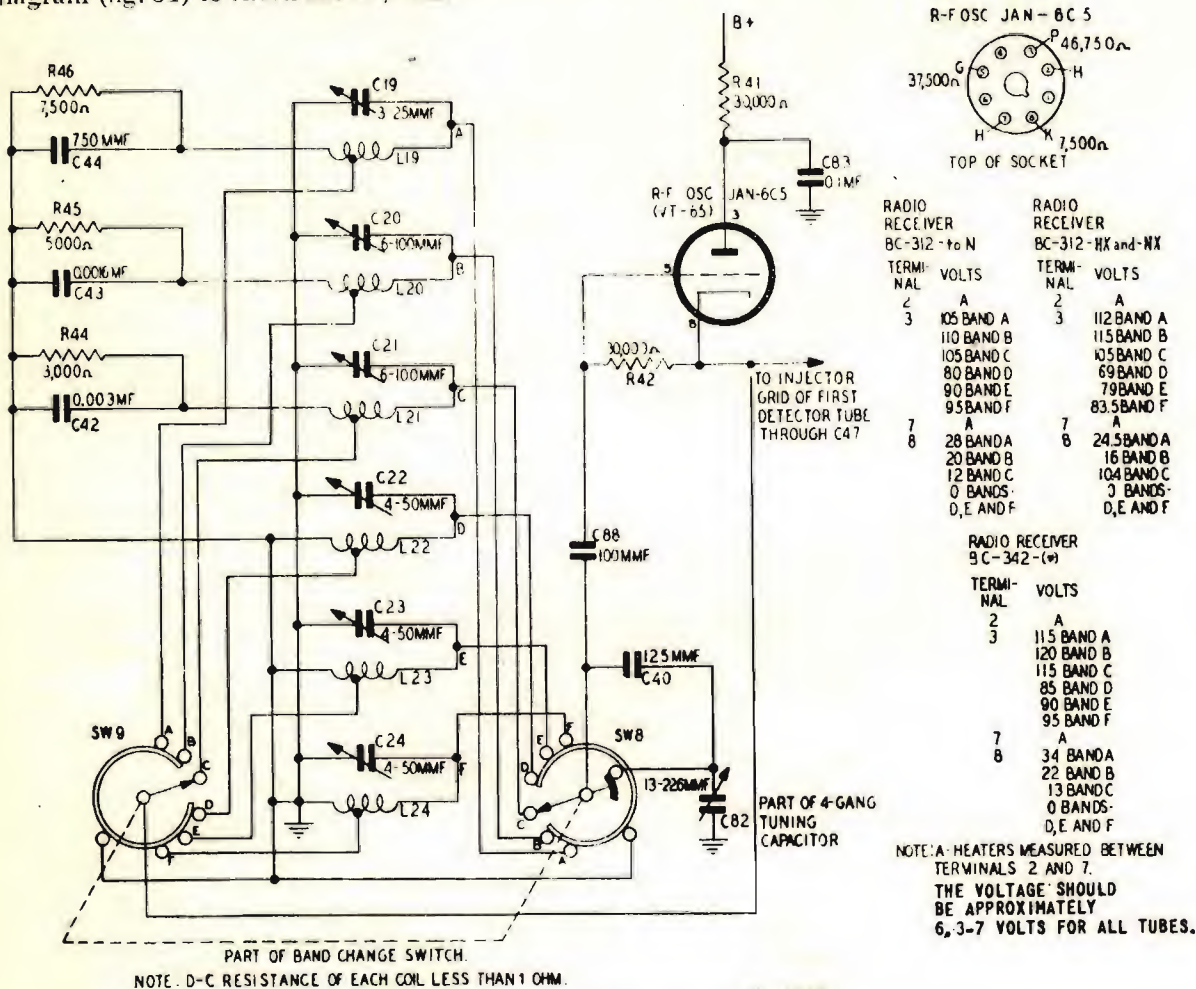

Figure 24. R-f oscillator, schematic diagram.
b. VOLTAGE AND RESISTANCE MEASUREMENTS. The voltage and resistance measurements shown in figure 24 are made in the manner and under the conditions listed in paragraph 42b.